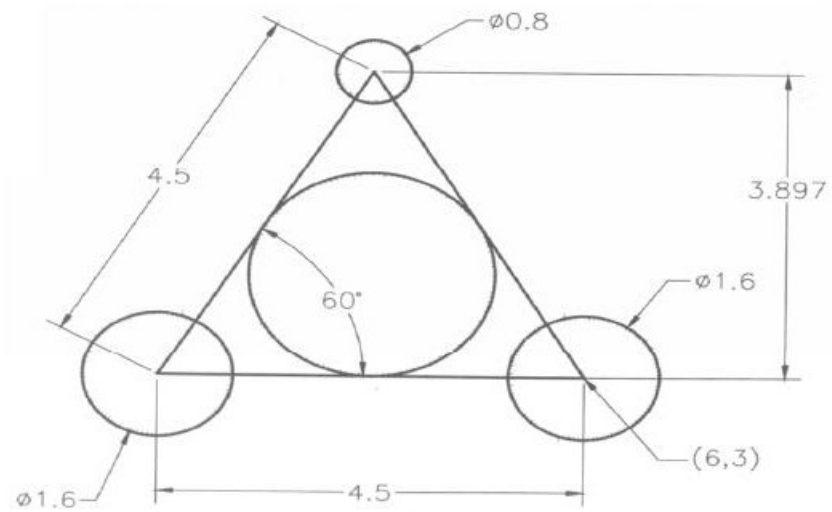

Fig 4.3
- Draw the diagram mentioned in Fig 4.3 in AutoCAD using appropriate commands.